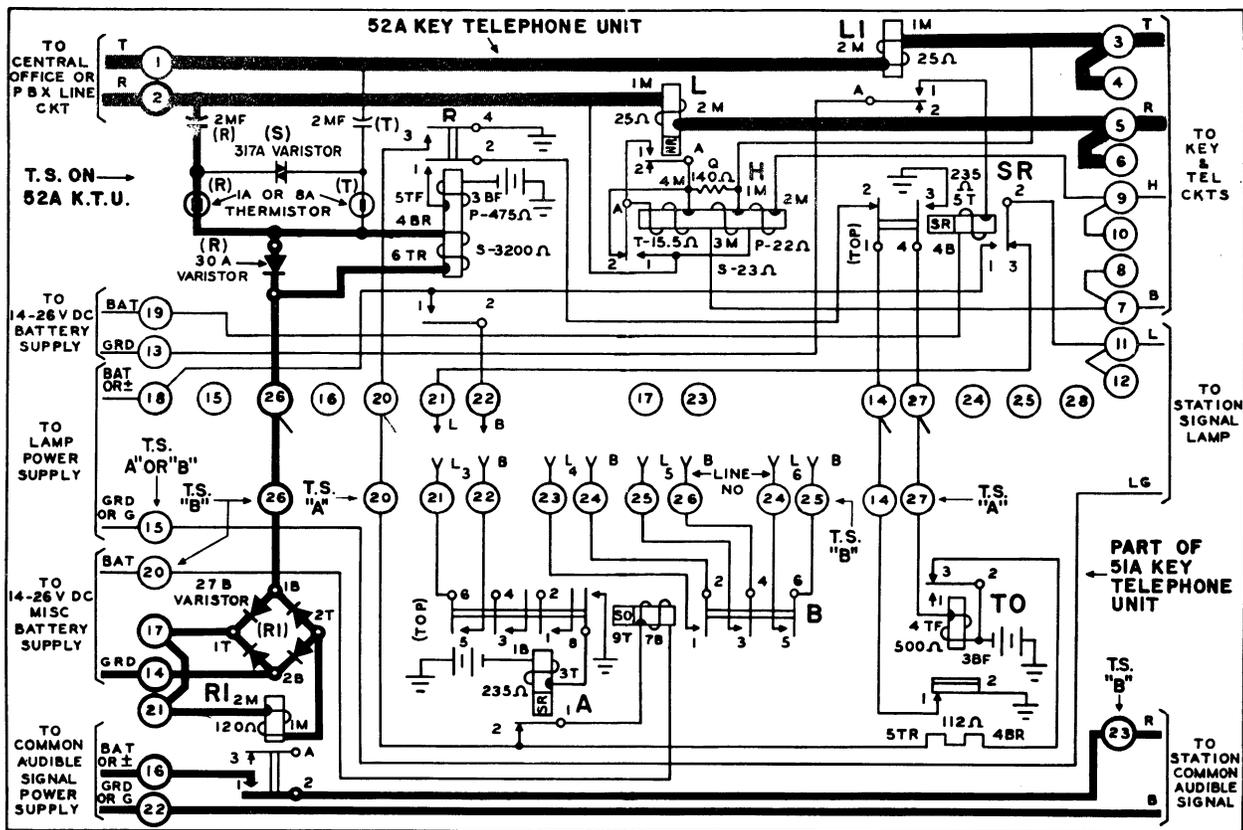

Fig. 5 Ringing and Common Audible Signaling Circuits - 52AKTU
- (e) Fig. 5 Ringing and Common Audible Signaling Circuit for 52A KTU.